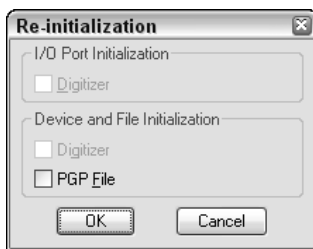

Figure 29-3: The Re-initialization dialog box.
11. Close Notepad. Generally, `acad.pgp` or `aclt.pgp` is accessed only when you load a new or existing drawing. However, you can use the REINIT command to reload the file at any time. Type `reinit` ↵. The Re-initialization dialog box opens, as shown in Figure 29-3.